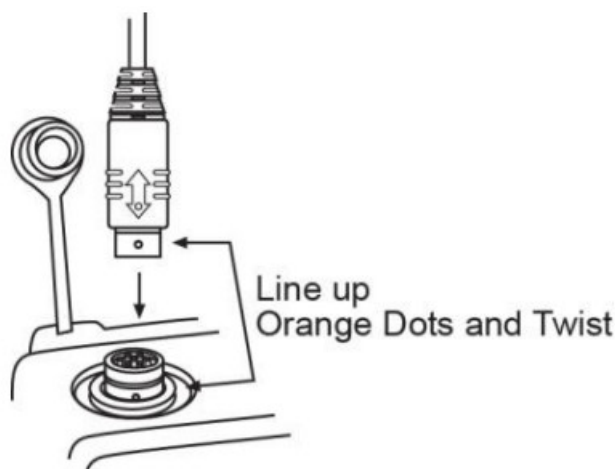

Figure 2: Push Back Cable Connection
- The U9920-GPB(EU) is designed for airport push-back operations and can be connected to an aircraft intercom system. Once connected, up to four-belt stations [U9910- BSW(EU)] or [U9912BSW(EU)] users can communicate to the pilot of the aircraft by pressing the PTT button on the belt station. A Push Back Cable is required between the U9920-GPB(EU) and the aircraft (see below: Figure 2 – connection illustration, and Table 2– PushBack Cable matrix.)